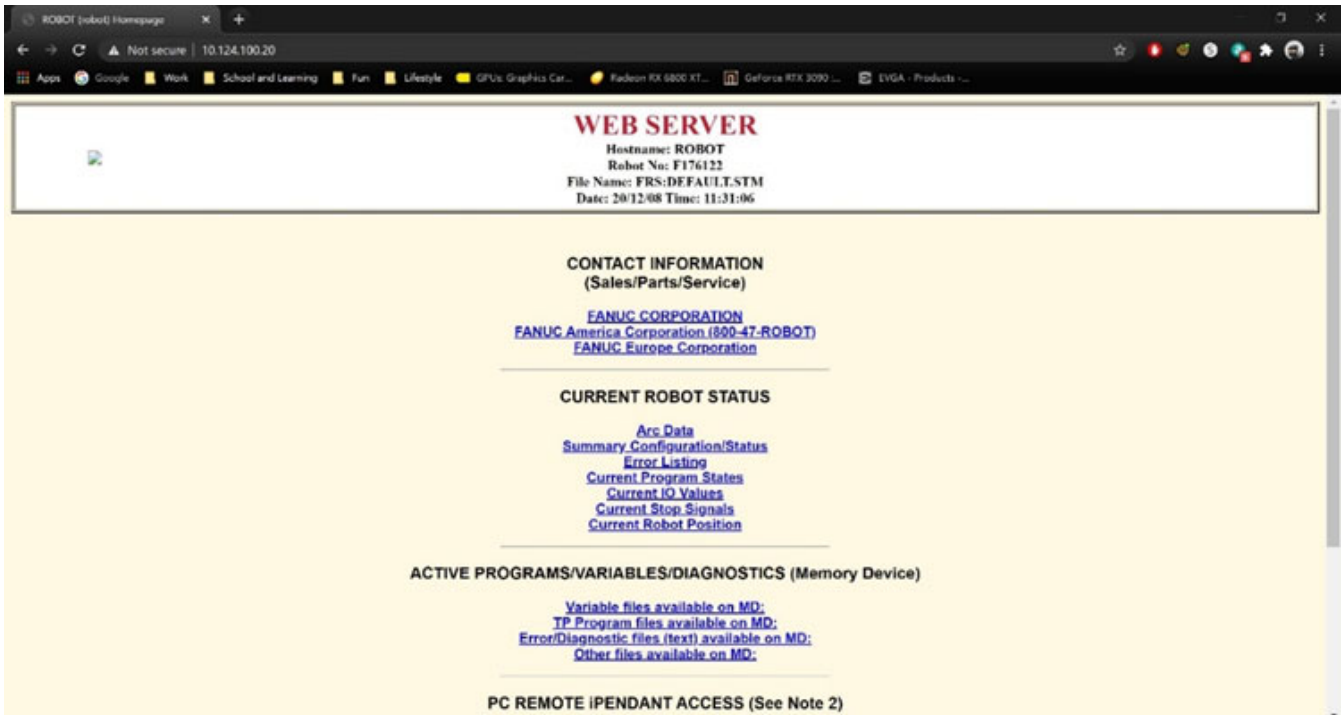

Figure 202: Robot Web Server Page
2. To check, enter the Robot's IP Address into a web browser and the robot's home page should load. See Figure 202 (below) as an example.